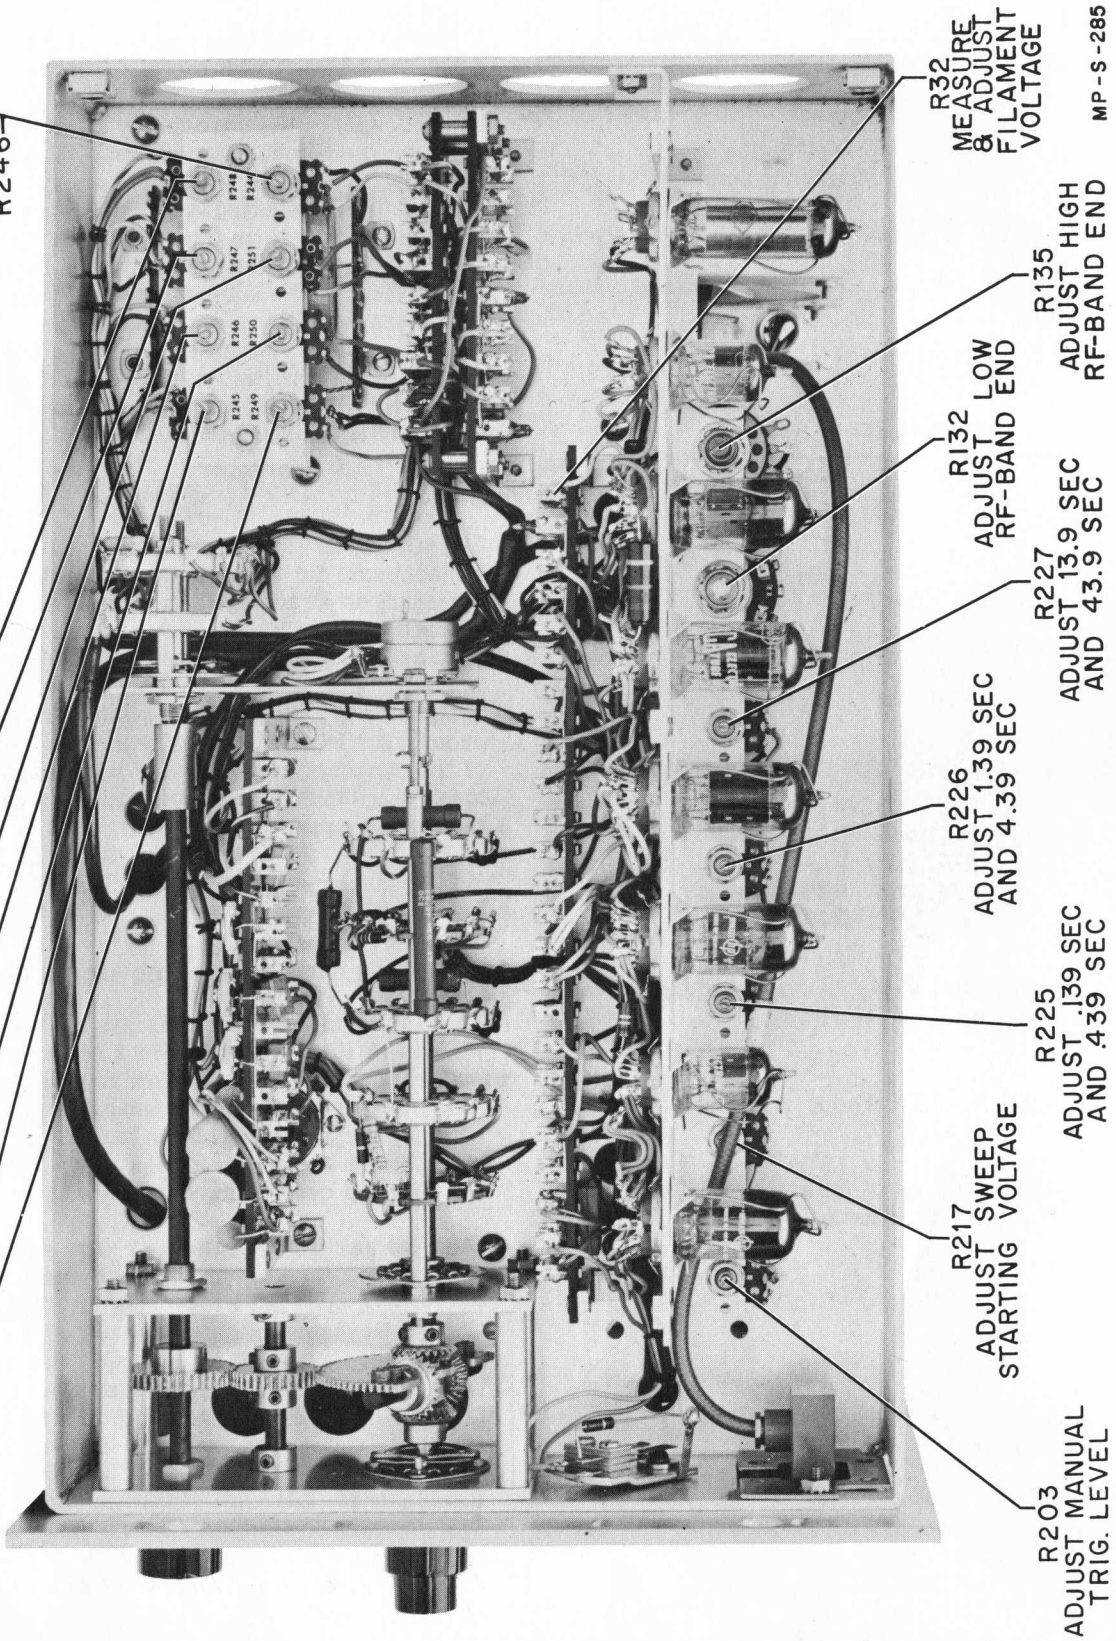

Figure 4-13. Model 686A Right Side View
- 6) Adjust R244 (rf sweep linearity) and R246 (rf sweep expansion). See Figure 4-13 to obtain a linear display of the full band (8.2 to 12.4 kmc).
The trigger bias should be adjusted with R203 (see Figure 4-13). The equipment should be connected as in Figure 4-2. Set the Δ FREQUENCY = 4.4K and SWEEP RATE to 3.2 kmc/sec. Adjust one wavemeter pip at the low end of the band and another at the high end. The end of the sweep should occur at the top of the wavemeter pip. Switch to TRIG and operate the MAN. TRIG button. Adjust R203 to obtain the same sweep length on MAN. TRIG as on RECUR. This is easy to determine if the sweep ends on the wavemeter pips.